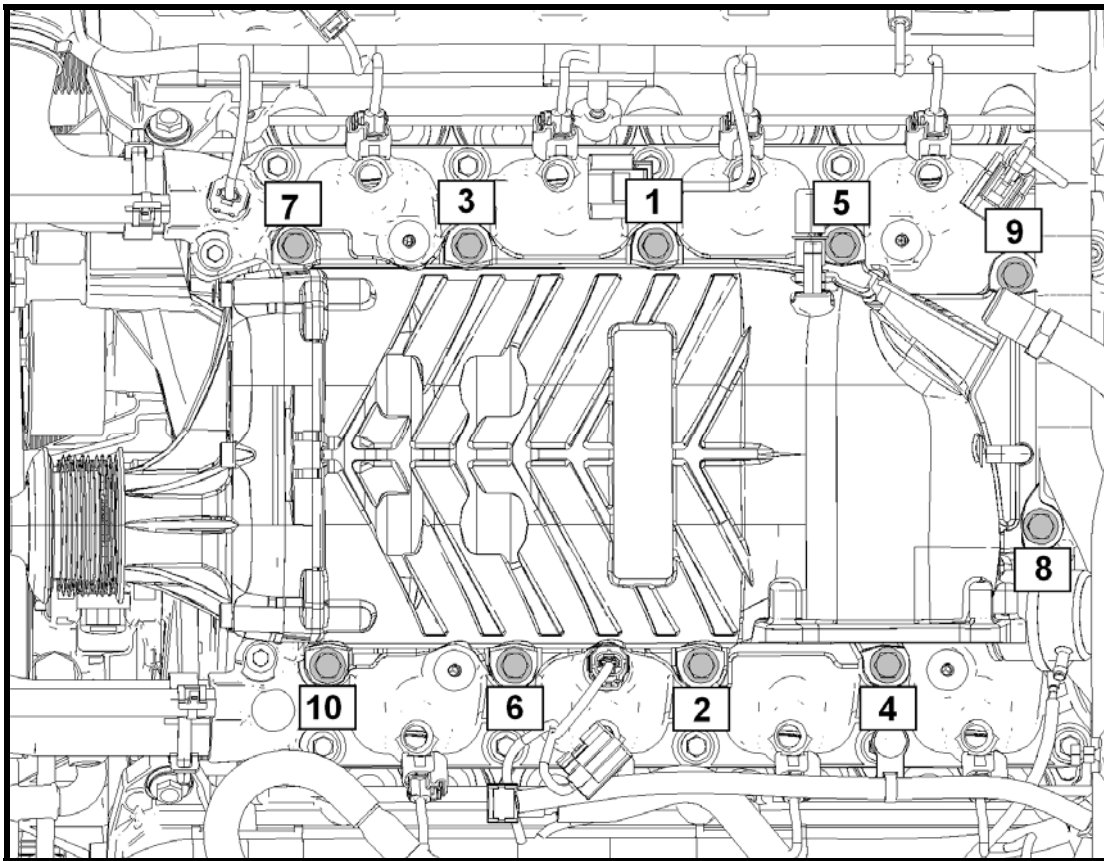

Fig. 16
STEP 1: Install the new supercharger to the intake manifold using the stock fasteners. Torque the fasteners to 5 Nm (44 lb in) using the inside-out pattern shown below (See Fig. 16). Repeat this procedure and torque each fastener to 25 Nm (221 lb in)